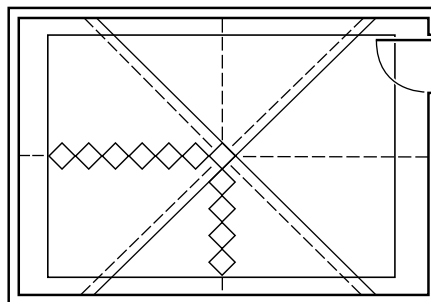

Fig. 18 - Adjusting chalk lines for a diagonal layout.
- Measure the distance between the last whole tile and the wall. If the distance in either row is less than one-fourth of the diagonal dimension of the tile, adjust the starting point and snap a new chalk line 1/4 of the diagonal dimension of the tile away from the original chalk line (Fig. 18). This will provide a balanced layout with larger cut tile around the perimeter.